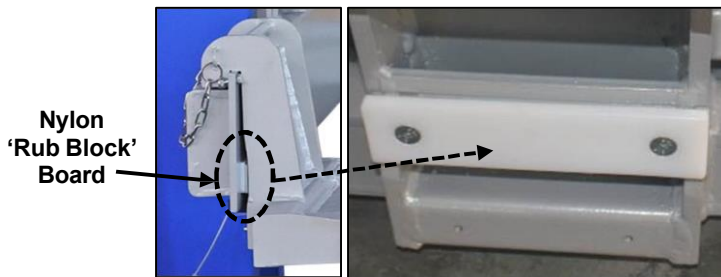

Fig. 15
- To install the platform shim plates, the backside of the platform must be exposed to access the **nylon 'rub block' board**, **Fig. 15.**